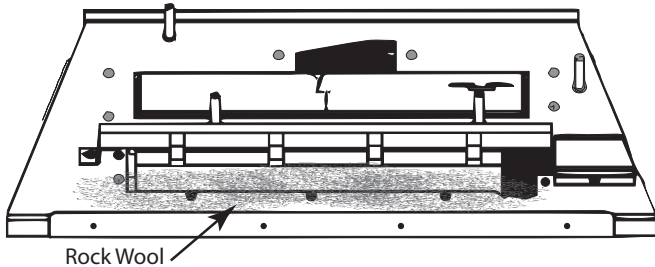

Figure 19 - Install Rock Wool
1. Before installing logs, place rock wool in front of the grate. Loosely apply nickel size pieces to allow the gas to flow through for proper burn and not to be obstructed. Failure to do so would cause a higher level of CARBON MONOXIDE. See Figure 19.